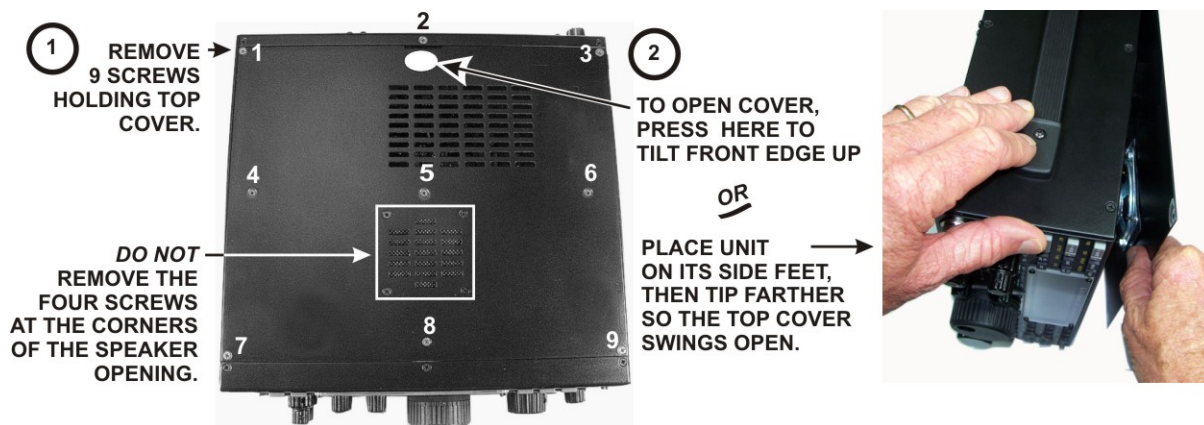

Figure 2. Removing K3 Top Cover.
- Remove the nine screws to free the top cover as shown in Figure 2. After the cover is open, lift it gently to reach the speaker wire connector. Unplug the speaker and set the top cover aside in a safe place.